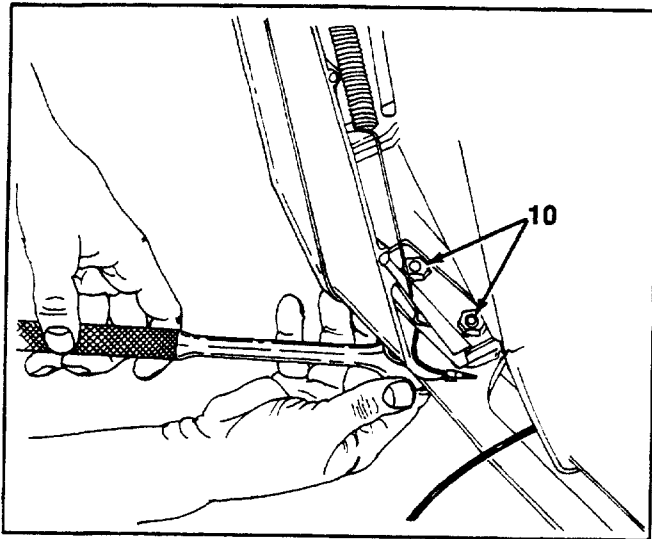

FIGURE 7.
9. Remove four hex bolts and lock washers securing the grille and hood to front chassis. See figure 7. Use a 1/2" socket wrench, going up through the access holes in the chassis.